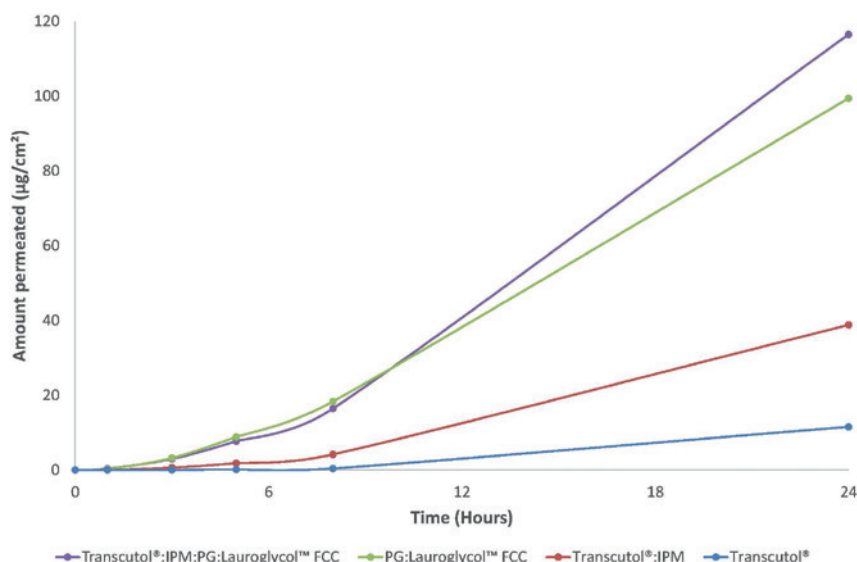

Figure 5: Diclofenac sodium permeation through human skin from various gel formulations (Gattefossé in-house study).
At Gattefossé, diclofenac sodium was used as a model drug and formulated in gels for permeability studies on human skin (Figure 5). Although the permeation obtained with the binary system propylene glycol (PG):Lauroglycol™ FCC was quite high (about 100 µg/cm2), the best performance was achieved with a quaternary system consisting of Transcutol®P, IPM, PG and Lauroglycol™ FCC (Figure 5) and a permeation of about 120 µg/cm2.